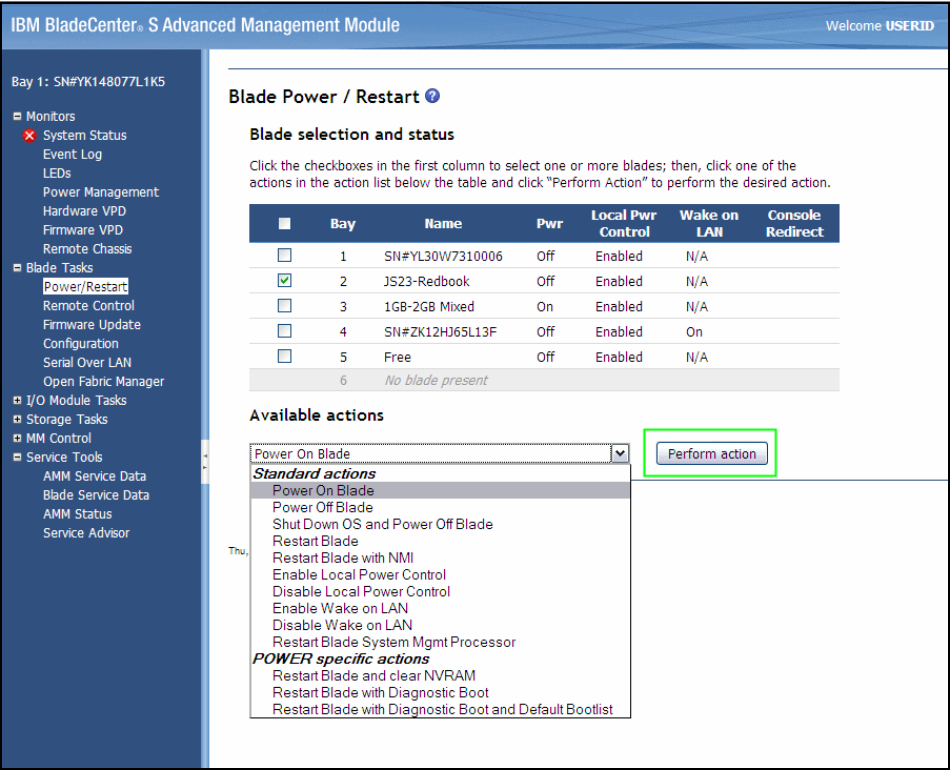

Figure A-8 Power/Restart blade options
3. Click the check box in front of the blade. Then choose the power action below the table with the blades. Use **Power On Blade** to start the blade or **Restart Blade** to restart the blade. See Figure A-8 on page 503.